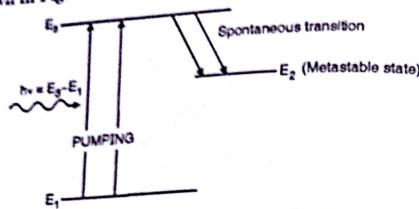
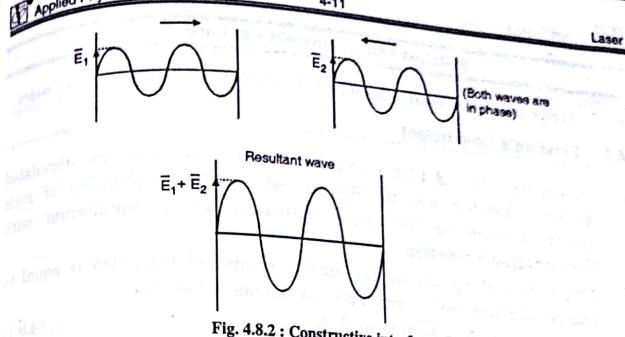
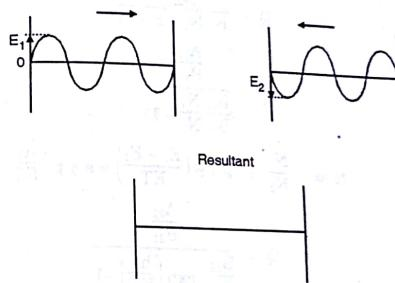

Fig. 4.7.1 : Pumping in 3 level scheme
Fig. 4.8.2 : Constructive interference
Fig. 4.8.3 : Destructive interference
Consider the case of three energy levels taking part  $E_1$ ,  $E_2$  (Metastable state) and  $E_3$  as shown in Fig. 4.7.1.
- A laser device consists of an active medium bound between two mirrors or highly reflecting surfaces as shown in Fig. 4.7.1. These surfaces reflect the photons to and fro through the active medium. A photon moving in a particular direction represents a light wave moving in the same direction. Thus the two mirrors along with the active medium form a cavity inside which two types of waves exists, one type comprises of waves moving to the right, and the other one to the left Figs. 4.8.2 and 4.8.3.
- The two waves interfere constructively if there is no phase difference between the two (Fig. 4.8.2) But, their interference becomes destructive if the phase difference is  $\pi/2$  (Fig. 4.8.3).